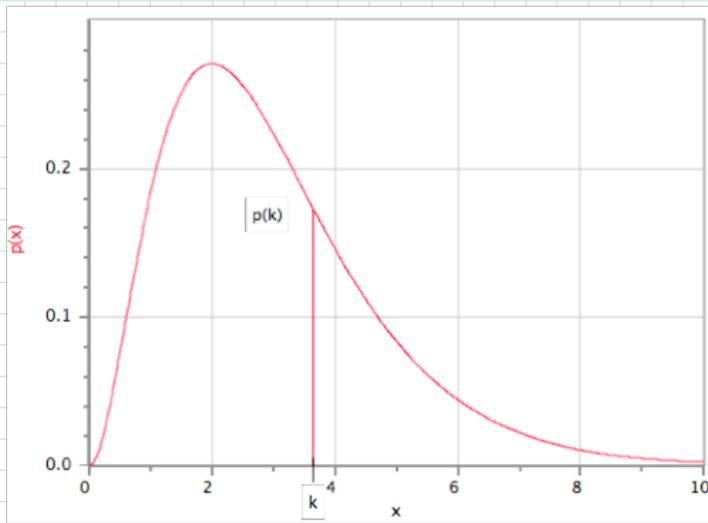
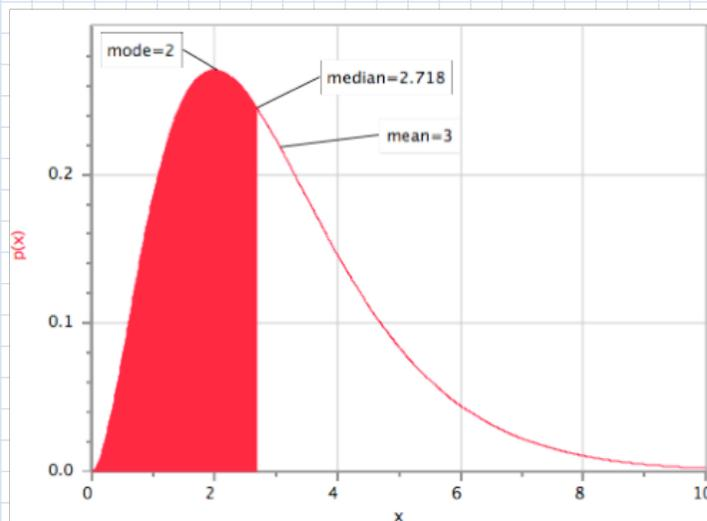

Figure 1: a probability distribution $p(x)$, showing $p(k)$ for a particular value k .
Figure 5: Mean, median, and mode of the distribution from Figure 1.
More commonly, we can specify the probability distribution for a continuous variable (rather than one that can only take certain discrete values, like heads or tails). In general, to specify a probability distribution we need to specify a value $p(x)$ for each possible value of x . $p(k)$ gives the probability of getting result $x=k$. (See Figure 1.)
- **b.** The distribution from Figure 1 has three different values for the mean, median, and mode. The mode is the easiest to find: it's the location of the peak, which is at $x=2$. To find the median, we have to find the point which divides the graph into equal areas to the left and right. This is shown in Figure 5 (the area to the left of the median is shaded red; the equal area to the right is unshaded):